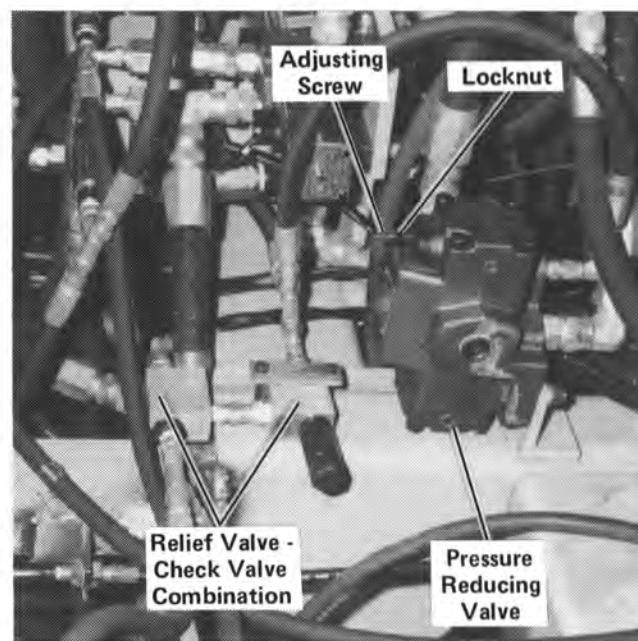

Figure 9
NIPPER FRAME UP pressure. The pressure setting valve at the top of the frame directly in front of the right operator's station is the "Nipper Frame Up" pressure regulating valve. See Figure 9. The "Nipper Frame Up" pressure regulating valve sets
1. Install the pressure gauge in the pressure tap at the relief valve — check valve combination. See Figure 9. Hold the nipper hooks close button, at the back side of the right hand trigger box,